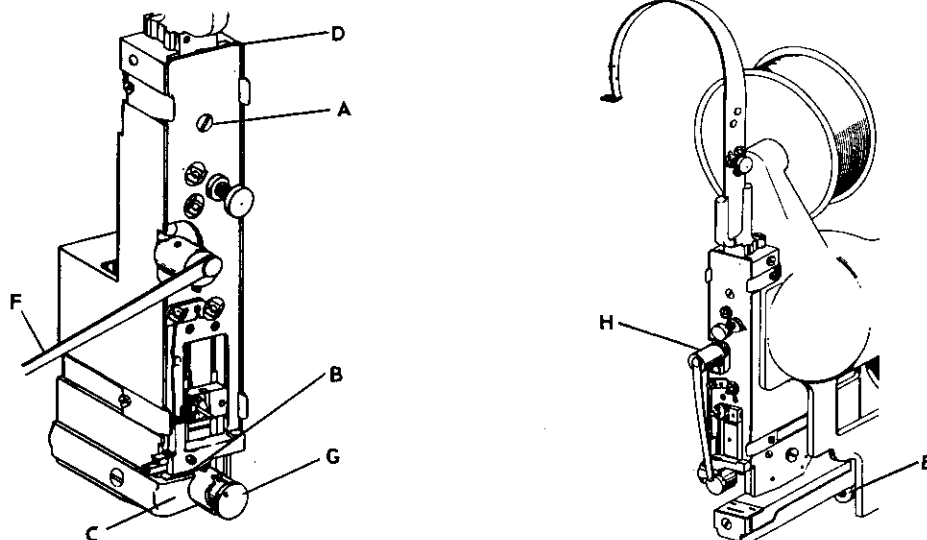

Figure 7
**I To adjust the face plate on Models K\*, 400, 500, 600, 650, 700: (Figure 7)**
2. Release the swivel operating springs (Index F, Figure 7) from the swivels, swing them to the left and let them hang freely.
3. Remove the swivel (Index G, Figure 7).
If for some reason the swivel operating cam (Index H, Figure 7) was removed from the head, see CAUTION note in Figure 29, page 23 before re-assembling and operating stitcher under power.